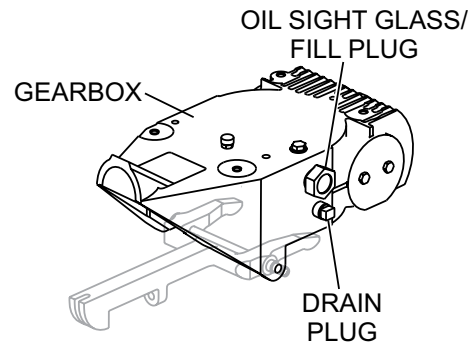

Figure 17. Gearbox
1. Determine if the gearbox oil is low by removing the oil plug located on the side of the gearbox. (Figure 17) This plug will be marked by the "check" decal. The correct level of the lubrication oil should be to the bottom of the fill plug.